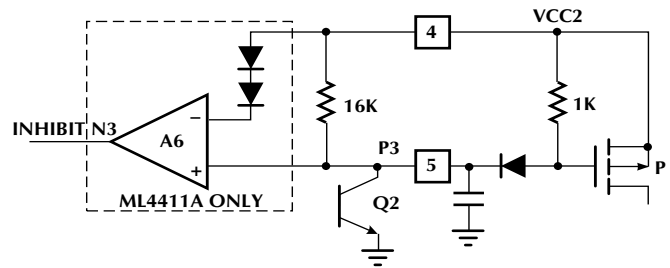

Figure 13. Alternate cross-conduction prevention for ML4411A
- When transitioning from mode 0 to mode A (see table 1) P3 goes from on to off at the same time N3 goes from off to on. If the P3 turns off slowly and N3 turns on quickly, cross-conduction may occur. This condition has been prevented inside the IC on the ML4411A through the addition of comparator A6 on the P3 output (Figure 9). This comparator may cause an oscillation when the N3 switches on due to the capacitive coupling effect described below pulling the P3 pin below VCC2-1.4V. To avoid this, use the circuit in Figure 13.